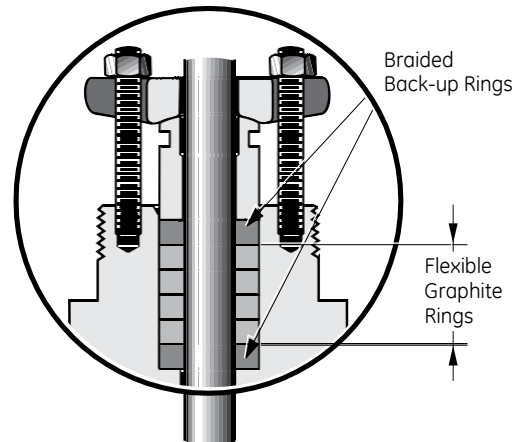

Figure 5 - Flexible graphite rings arrangement (Option)
### 7.3.2 Flexible graphite rings (optional-See Figure 5)
- B. Loosen and remove packing flange nuts (3).
- C. Remove packing flange (4) and packing follower (5) from the plug stem.
- D. By means of a hooked instrument, remove packing (6) ensuring not to damage the sealing surfaces of the packing box or plug stem.
**Note:** On valves equipped with an optional lubricator connection, the lantern ring (7) must also be removed to gain access to lower packing rings.
- E. Replace new packing set (6); first assemble a back-up ring (Graphite Filament Yarn braided ring), then the flexible graphite rings (smooth rings), and finally another braided back-up ring (refer to Figure 5).